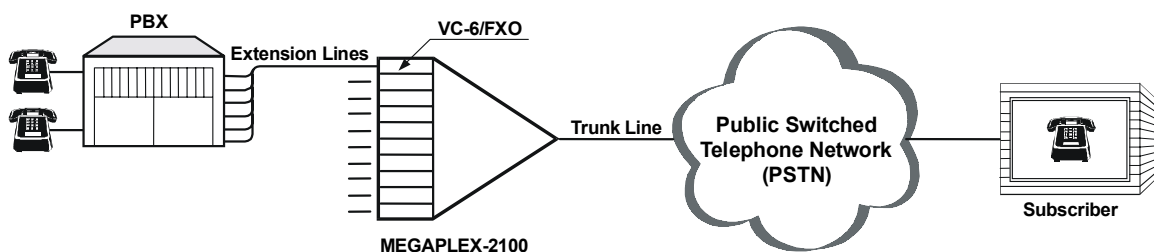

Figure 1-4. Typical PSTN Application for VC-6/FXO Modules
Due to flexible signaling configuration capabilities, the VC-6/FXS and VC-6/FXO modules can also be used in links ending in the public switched telephone network (PSTN), such as the typical application shown in Figure 1-4. In this application, PSTN subscribers can dial directly to the subscribers connected to the VC-6/FXS module installed in the Megaplex unit.
- Profile 2 is used to enable connection of VC-6/FXO or VC-6/FXS modules to T1 trunks ending in the PSTN (a typical application of this type is shown in Figure 1-4), however VC-6/FXO modules using profile 2 can also be connected to VC-6/FXS modules using profile 2.